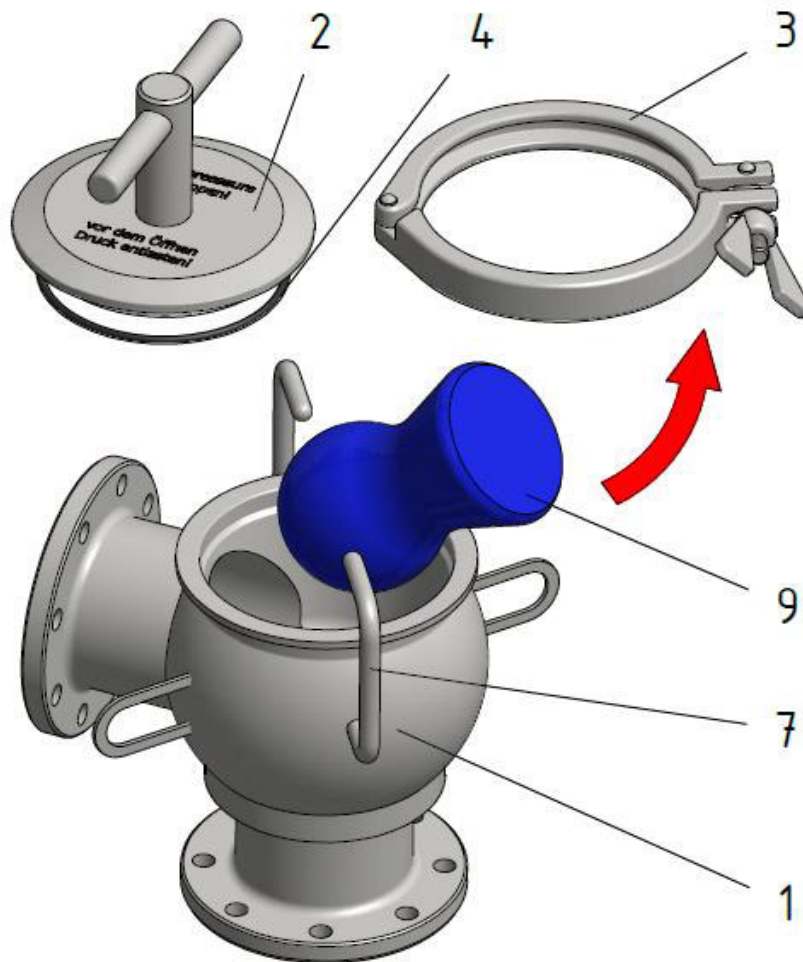

Fig 7-2: Remove pig
- Release and remove the sealing clamp (Fig. 7-2, Item 3).
- Remove the cover (Fig. 7-2, Item 2) from the housing (Fig. 7-2, Item 1)
- Remove the pig (Fig. 7-2, Item 9) along the securing bracket (Fig. 7-2, Item 7)
- Clean the installation space on the housing (Fig. 7-2, Item 1) and check for any damage
- Clean and check the O-ring (Fig. 7-2, Item 4) for damage and lubricate the gasket with approved grease (Unisilikon 641, e.g. from Klüber)
- Close the housing (Fig. 7-2, Item 1) with the cover (Fig. 7-2, Item 2)
- Secure the cover (Fig. 7-2, Item 2) with the sealing clamp (Fig. 7-2, Item 3) by screwing tightly